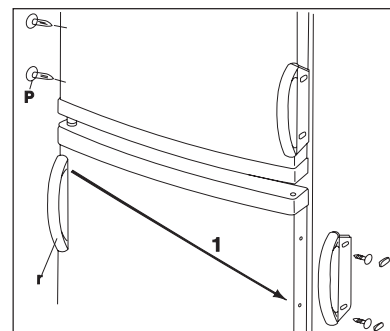

fig. 4.
16. Fit the freezer door to the lower door hinge pin (f). (fig. 4)